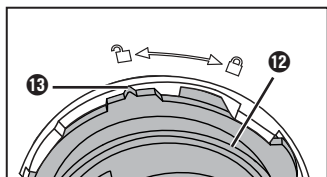

Fig. 6
- 6) Turn the bracket **12** anticlockwise until the marking **13** on the bracket **12** points towards the  symbol on the dough container **15** (fig. 6). Remove the bracket **12** together with the dough shaft **10**.